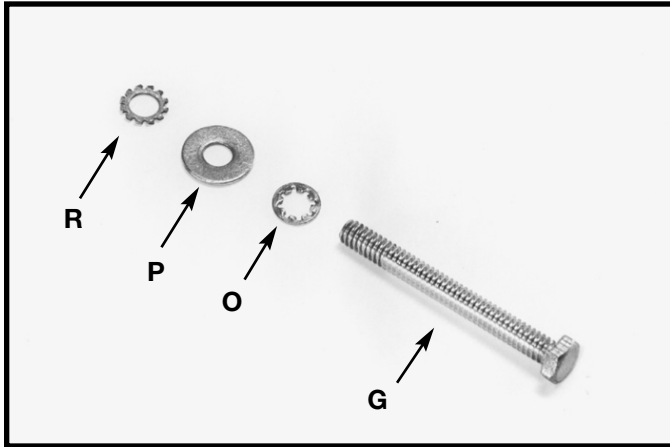

Fig. 10
3. Locate the 1/4-20x2½" hex head screw (G) Fig. 10. Place the 1/4" internal tooth lockwasher (O) M6.4 flat washer (P) and the 1/4" external tooth lockwasher (R) on the screw (G).